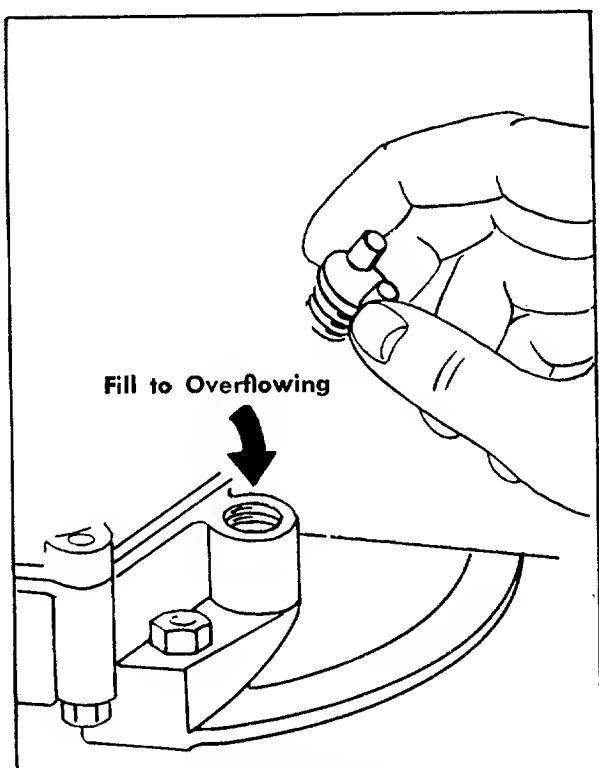

FIGURE 12. OIL FILL
Check the oil level in the crankcase before each use of the machine and after every two hours of operation. Keep the oil level to the overflowing point. See figure 12.
Step 3. With the machine on level ground, remove the oil filler plug. See figure 12. Fill the crankcase until the oil overflows from the oil fill hole. Fill slowly to avoid air locks. The crankcase holds approximately 1 1/4 pints of good quality SAE 30 type MS engine oil. Replace the oil filler plug.